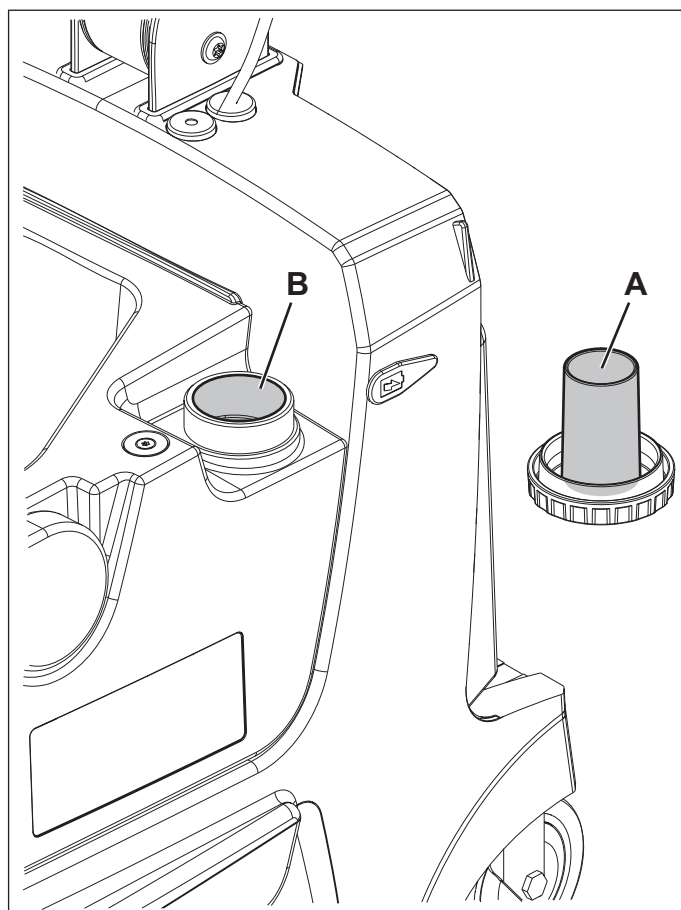

Figure 2
1. Remove the tank cover (12).
2. Remove the cap (A, Fig. 2) on the solution tank (B).
3. Fill the solution tank (B) with water, leaving a few centimeters from the top.